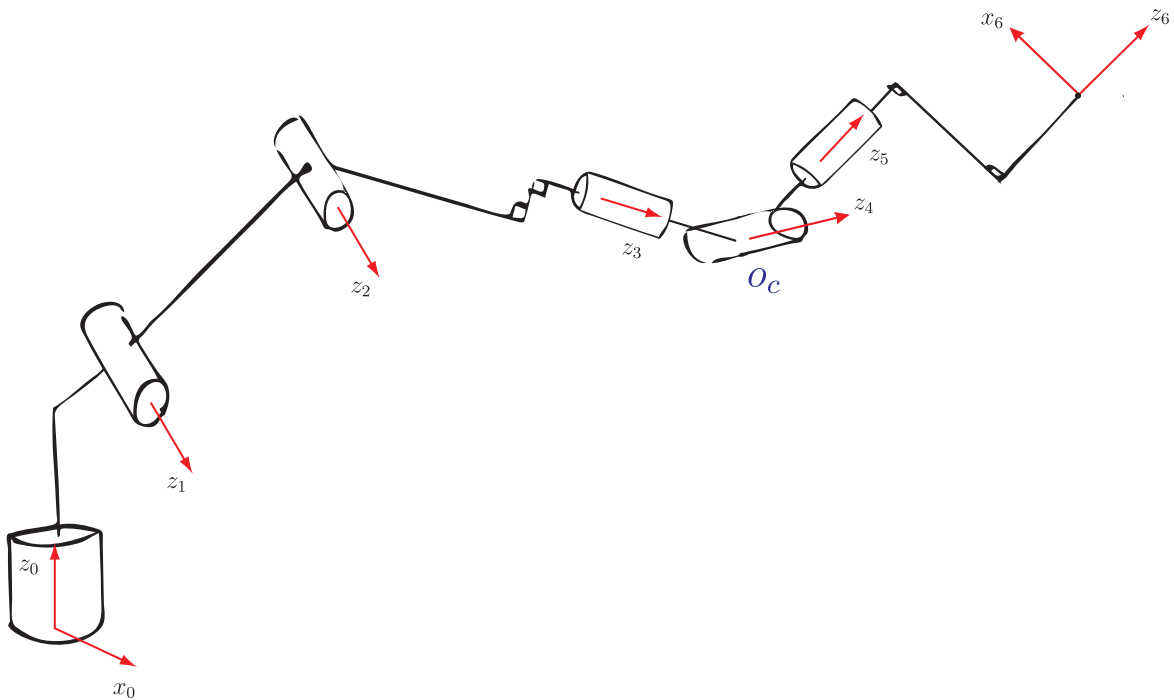

Figure 3: Schematic diagram of KUKA robot arm not at rest.
- Figure 3 depicts the robot in a generic configuration away from the rest position. Print out this page and draw on the figure coordinate frames $o_1x_1y_1z_1$, $o_2x_2y_2z_2$, $o_3x_3y_3z_3$, $o_4x_4y_4z_4$ and $o_5x_5y_5z_5$ according to the DH convention, and write the DH table of the robot. In particular, choose the x_1 axis parallel to the x_0 axis, $x_1 = x_0$ (this is done for convenience).